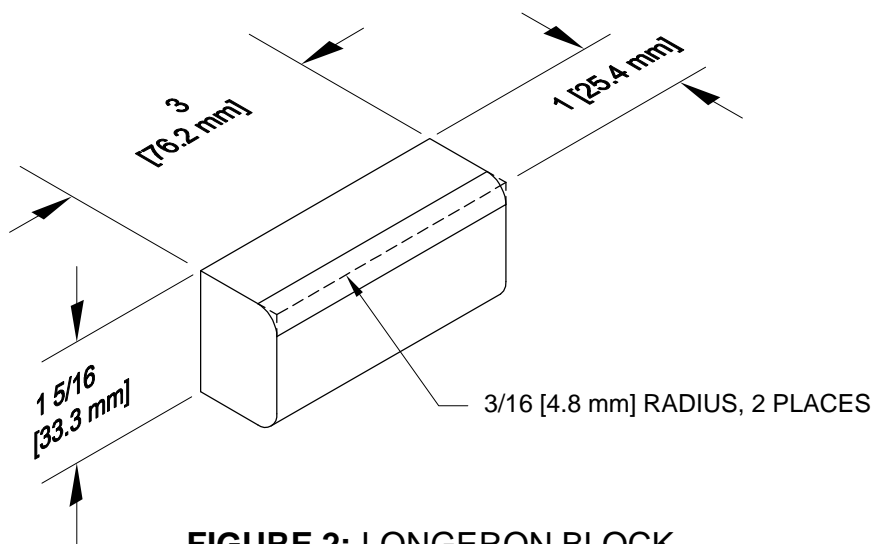

FIGURE 2: LONGERON BLOCK
Step 3: Fabricate two Longerons Blocks out of wood. See Figure 2.